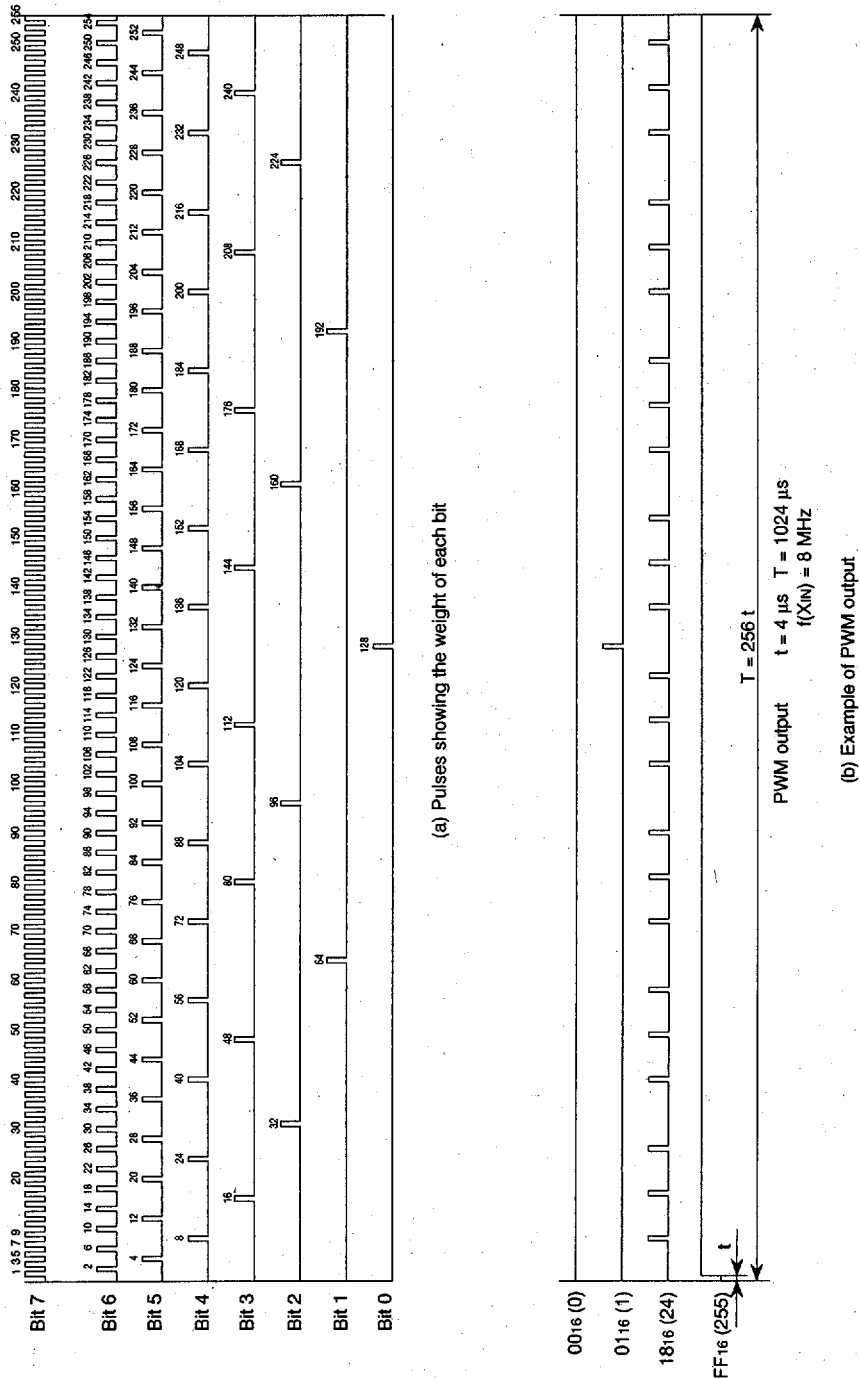

Fig. 13 8-bit PWM timing
One cycle (T) is composed of 256 ( $2^8$ ) segments. The 8 kinds of pulses are output inside the circuit during 1 cycle relative to the weight of each bit (bits 0 to 7). Refer to Figure 13 (a).
The PWM outputs wave form which is the logical sum (OR) of pulses corresponding to the contents of bits 0 to 7 of the 8-bit PWM register. Several examples are shown in Figure 13 (b).